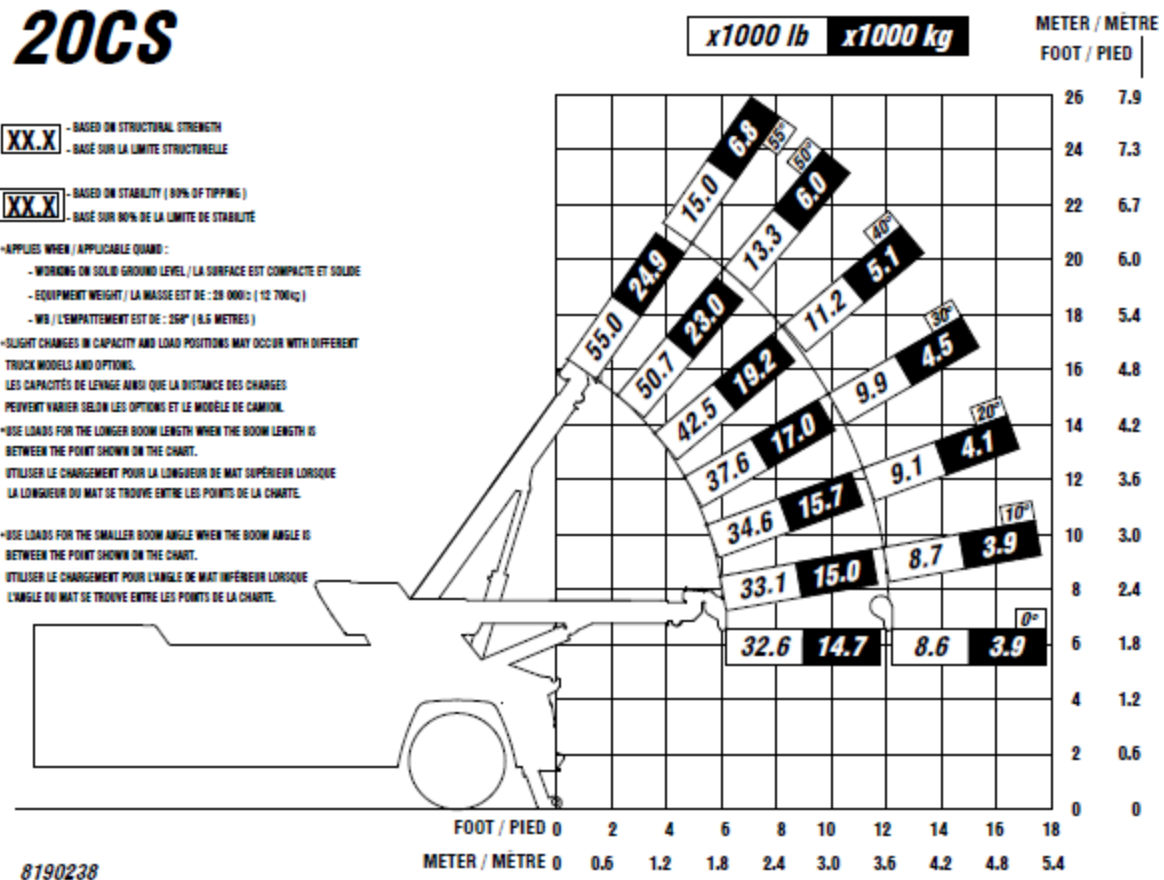

FIGURE 11 — LIFTING CAPACITY OF THE 20CS
- Figure 11 — Lifting Capacity of the 20CS